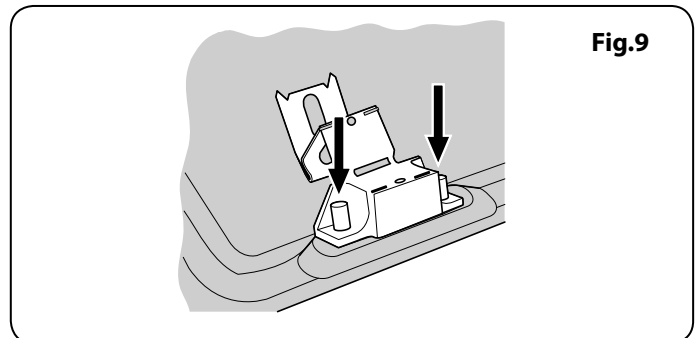

Fig.9
2. Tap the pins on the clamps until the ends of the pins are level with the top edge of the clamps (**Fig.9**).